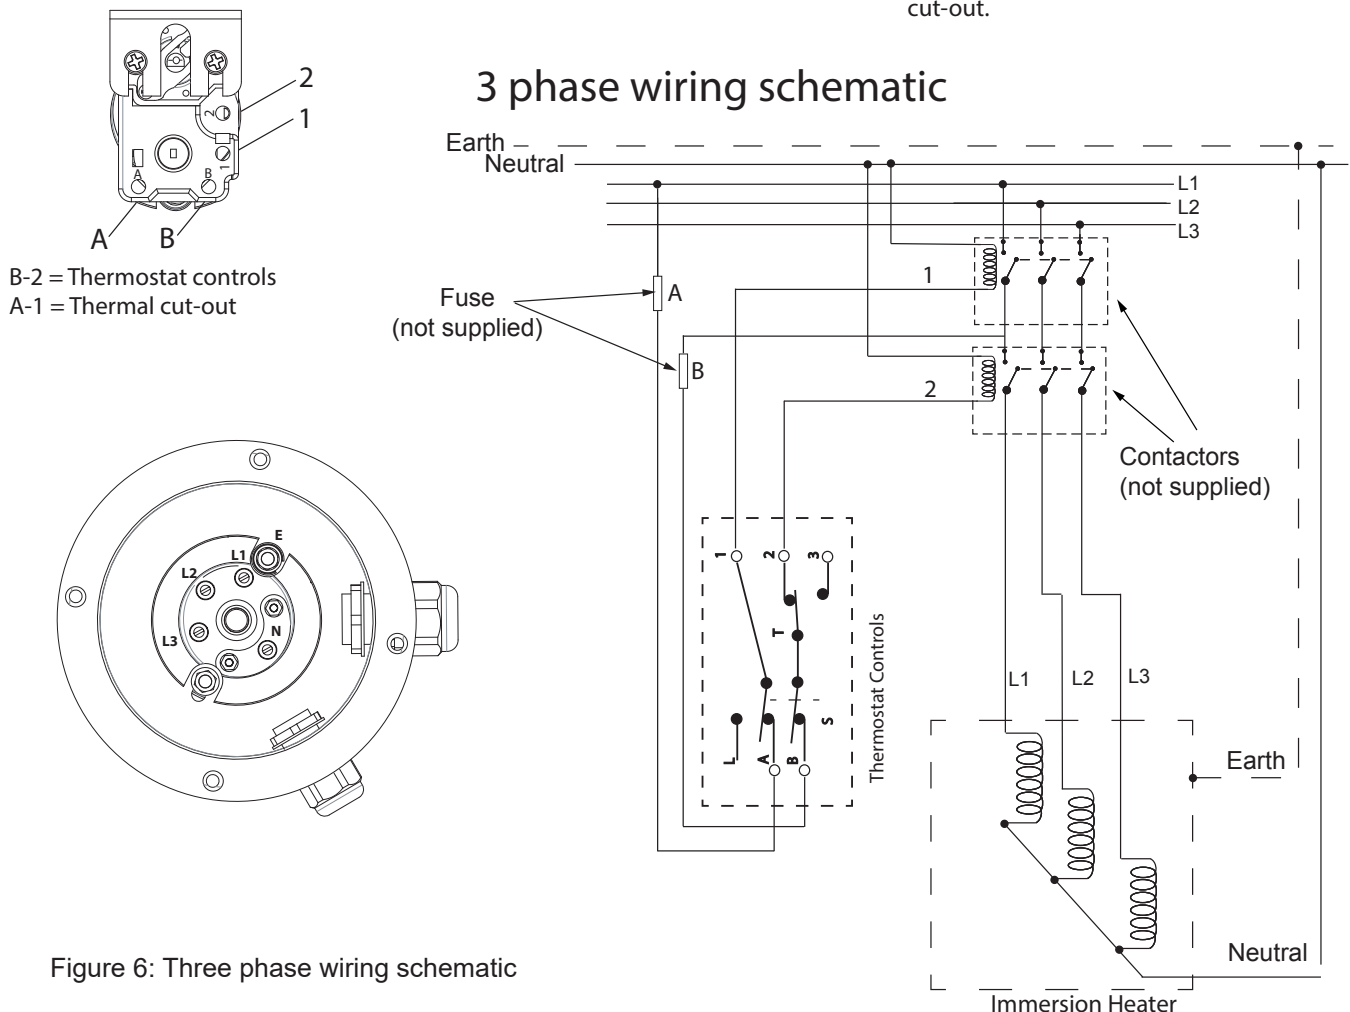

Figure 6: Three phase wiring schematic
- Wire up immersion as per figures 6, page 11. If three phase wiring chosen remove "Live" side buzz bar and fit extra posts (supplied) to L1, L2 & L3. (outer case and bracket removed for clarity)
- Replace thermostatic controls taking care when inserting the capillary bulbs into stat pocket and wire up as per figure 6 or 7, page 9 .